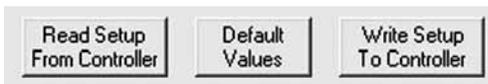

FIGURE 48
6. **Programming Setup:** These buttons (see Figure 48) provide communication between the controller and the PC to read/write the controller setup.